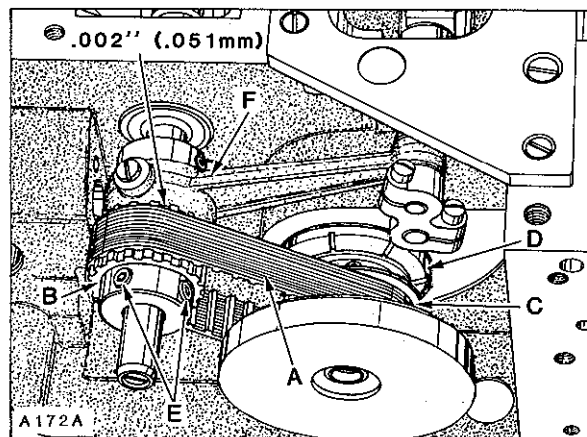
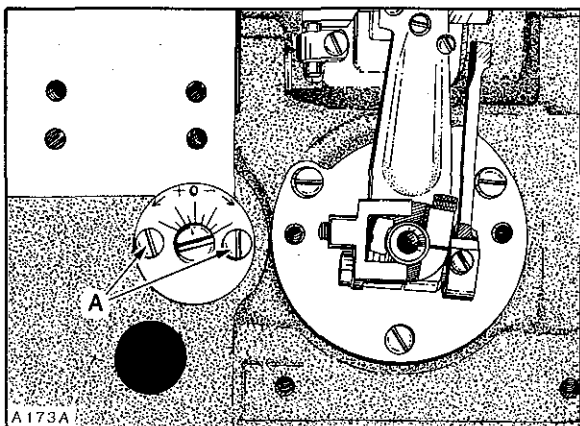

Fig.4
Fig.5
**NOTE:** End cover has been removed for clarity in Figure 4, but **MUST BE IN POSITION WHILE MAKING THE FOLLOWING ADJUSTMENTS.**
Looper drive belt, (A, Fig. 4) has proper tension if, when turning handwheel in operating direction to position looper in the center of its (right to left) travel..... there is no noticeable (right to left) play in the looper mechanism. There should be approximately 1/8 inch (3.2mm) deflection in looper drive belt when pressing firmly with thumb, midway between sprockets (B and C). Adjustment can be made by loosening two screws (A, Fig. 5) and turn looper module (D, Fig. 4) counterclockwise to tighten belt or clockwise to loosen, as viewed in Figure 4. Retighten screws (A, Fig. 5).
Rotate handwheel in REVERSE direction until pin in looper holder again makes contact with gauge plate and note the reading on the gauge. A variation of (1) graduation on the scale is permissible. If the reading is above "O", loosen screws (E, Fig. 4) and turn rear looper drive sprocket (B) towards the operator (clockwise as viewed in Figure 4). If the reading is below "O", turn sprocket away from operator (counterclockwise as viewed in Figure 4). Temporarily snug screws.
Rotate handwheel in OPERATING direction until pin in looper holder contacts gauge plate and note the reading on scale. If the reading is above "O", loosen screws (E) and turn sprocket (B) away from operator (counterclockwise as viewed in Figure 4). If the reading is below "O", turn sprocket towards the operator (clockwise as viewed in Figure 4). Temporarily snug screws.
Turn handwheel in reverse direction to position looper point even with the left side of RIGHT needle and check the distance from the eye of needle to the bottom of looper blade. If the distance was greater when handwheel was turned in operating direction, (as viewed in Sketch B) loosen screws (E, Fig. 4) and turn rear looper drive sprocket (B) away from operator (counterclockwise as viewed in Figure 4). If the distance was greater when handwheel was turned in reverse direction, (as viewed in Sketch C) turn sprocket towards the operator (clockwise as viewed in Figure 4). Temporarily snug screws.
Before tightening screws (E, fig. 4) securely, be sure to have .002 inch (.051mm) clearance between sprocket (B) and needle guard drive connecting rod (F).